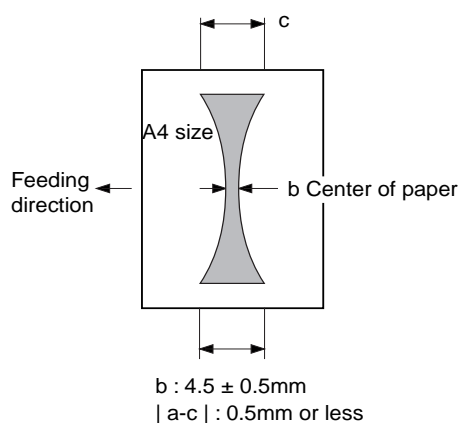

Figure 4-718
The nip is correct if it is as indicated in Figure 4-718; otherwise, turn the bolt to adjust.
- The machine picks up paper from the cassette, allows measurement as in Figure 4-718, and discharges paper.